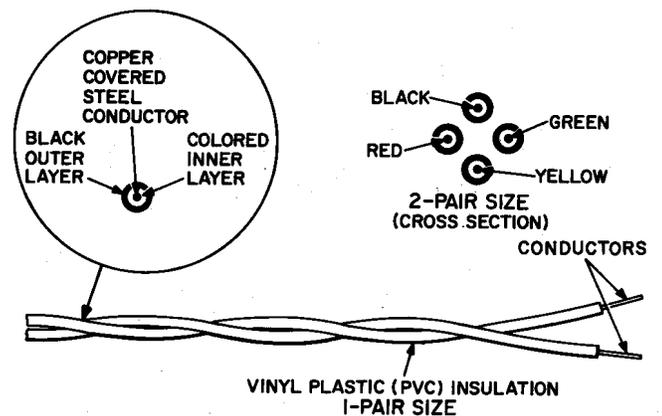

Fig. 2—E Block Wire
2.02 **E block wire** is furnished in 1-pair and 2-pair sizes (Fig. 2). It consists of 0.027-inch annealed copper covered steel conductors individually dual insulated with a distinctively colored inner layer and a black outer layer of vinyl plastic compound. Conductor and pair identification are provided by the colored inner layer (see Table A). The 1-pair size is furnished as a twisted pair and the 2-pair size in a spiral four construction.